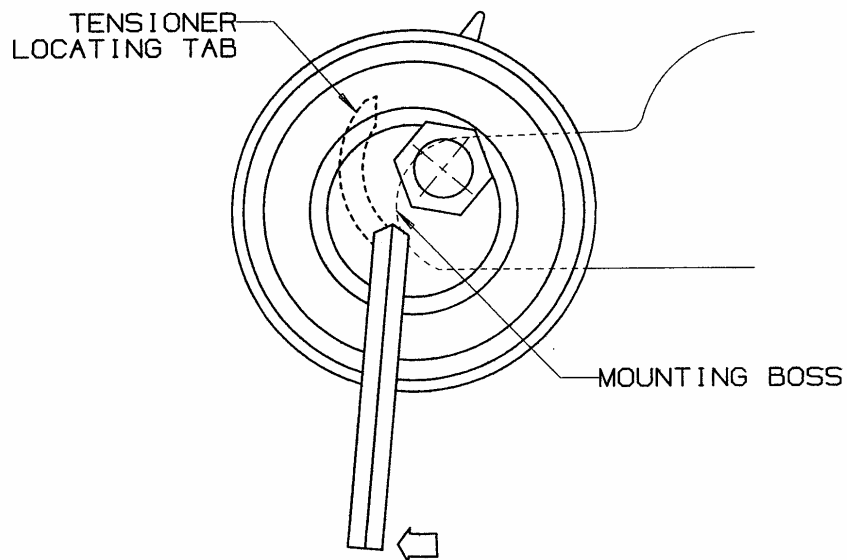

Figure 1: Tensioner Installed on Engine
4. Place a new eccentric idler onto the mounting boss of the engine head. Idler's Locating Tab should fit around the Boss on the engine head (See Figure 1).